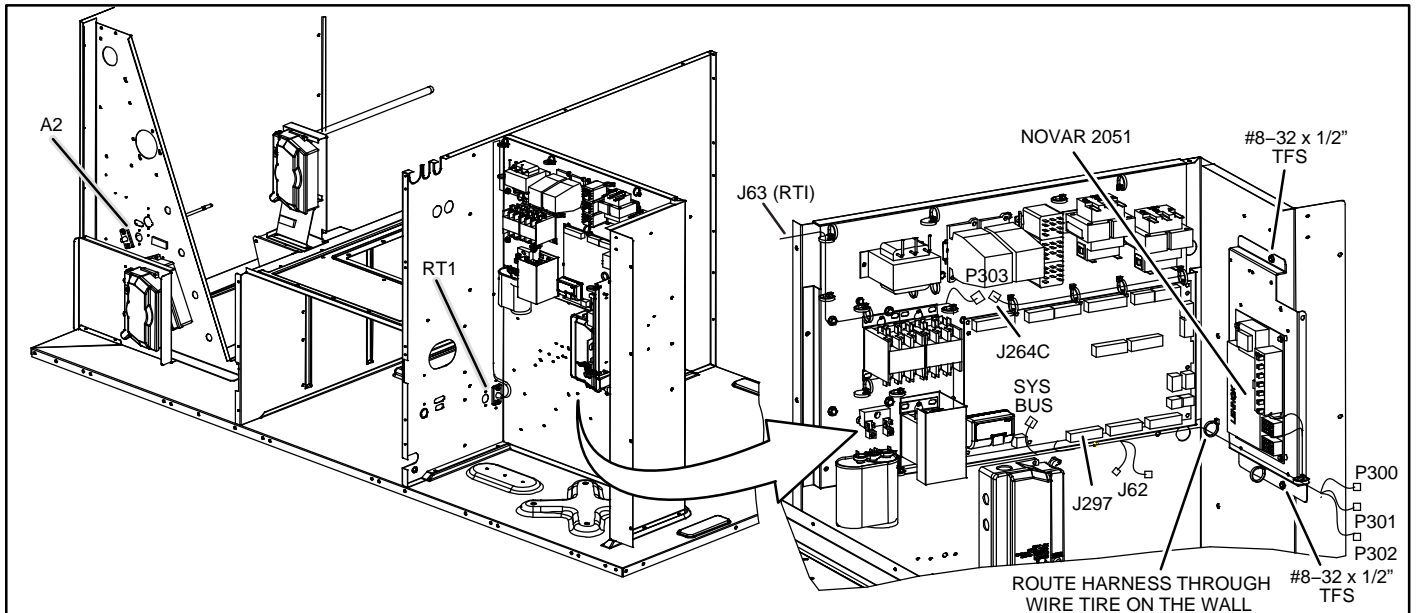
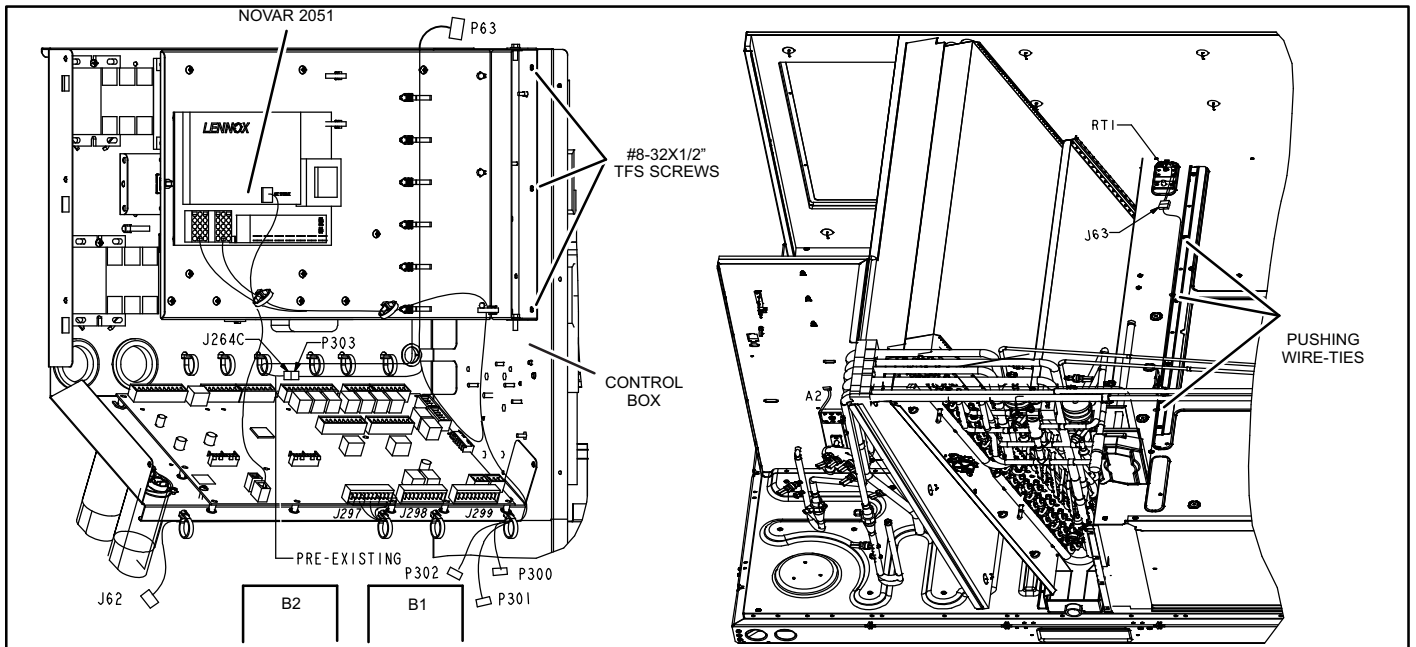
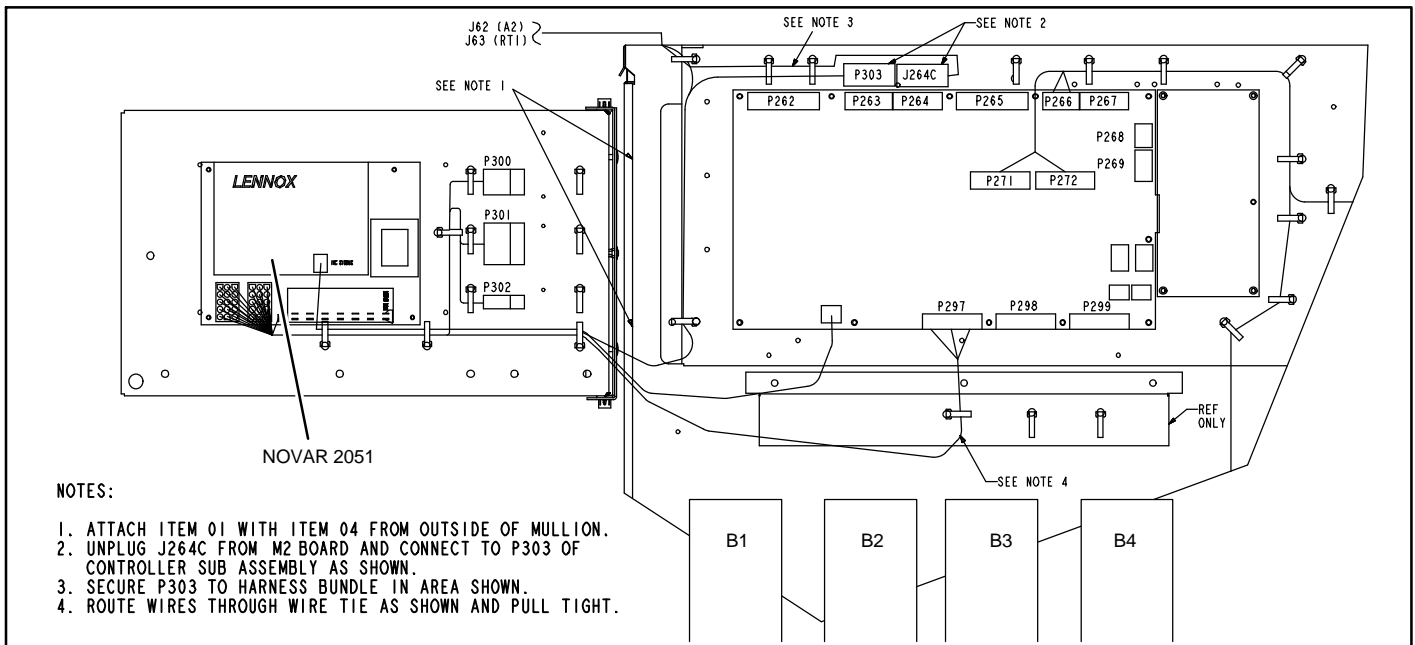

Figure 1. Novar 2051 DDC Location - A Box Units
Figure 2. DDC Location - B Box Units
Figure 3. DDC Location - C & D Box Units
See figure 1 for location of DDC assembly in A box units. See figure 2 for location of DDC assembly in B box units. See figure 3 for location of DDC assembly in C and D box units.
A Box Units—Position the DDC assembly on the right side of the Prodigy® Unit Controller (see figure 1). Secure with two #8-32 x 1/2" TFS" screws.
B Box Units—Position the DDC assembly in front of control panel and secure the assembly with three #8-32 x 1/2" TFS screws to the control box located at the right side of control panel (see figure 2).
Route harnesses coming from sub-assembly (see figure 1 for the following steps 1 through 5).
Route harnesses coming from sub-assembly (see figure 2 for the following steps 1 through 6).
Route harnesses coming from sub-assembly (see figure 3 for the following steps 1 through 3).
3. Insert discharge air sensor probe into hole at the left of blower deck as shown in figure 2. Secure with two #8 -32 x 1/2 TFS screws provided.
4. Cut wire ties holding sensor RT6 and secure both harnesses with pushing wire ties provided as shown in Figure 2.